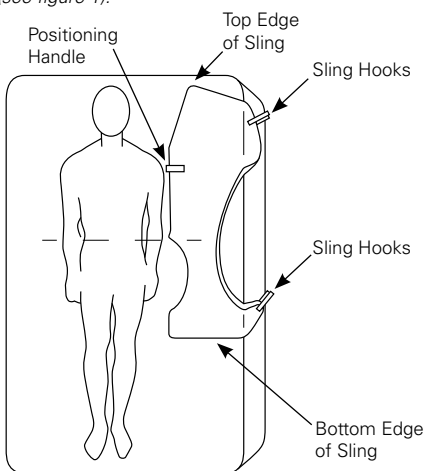

Figure 1
2. Fold the sling in half (lengthwise) and place the sling beside the resident (*see figure 1*).